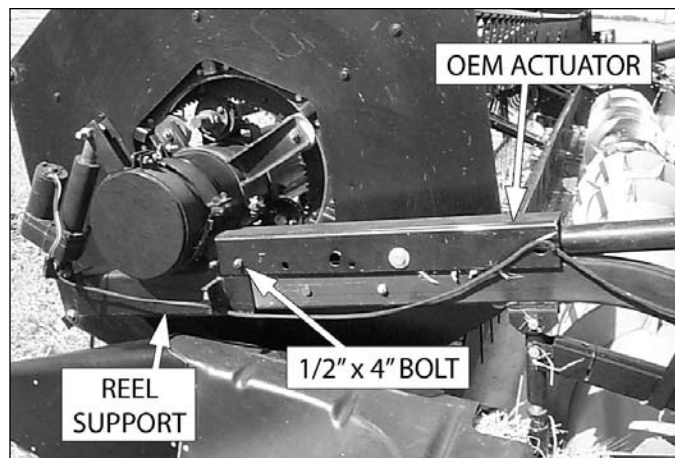

Figure 26, Reel support for Gleaner 5, 7 & 8 series (LH shown)
- Gleaner 5, 7 & 8 series:** Attach the base of the OEM actuator bracket to the reel support with a 1/2" x 4" bolt and nylock nut (Figure 26).